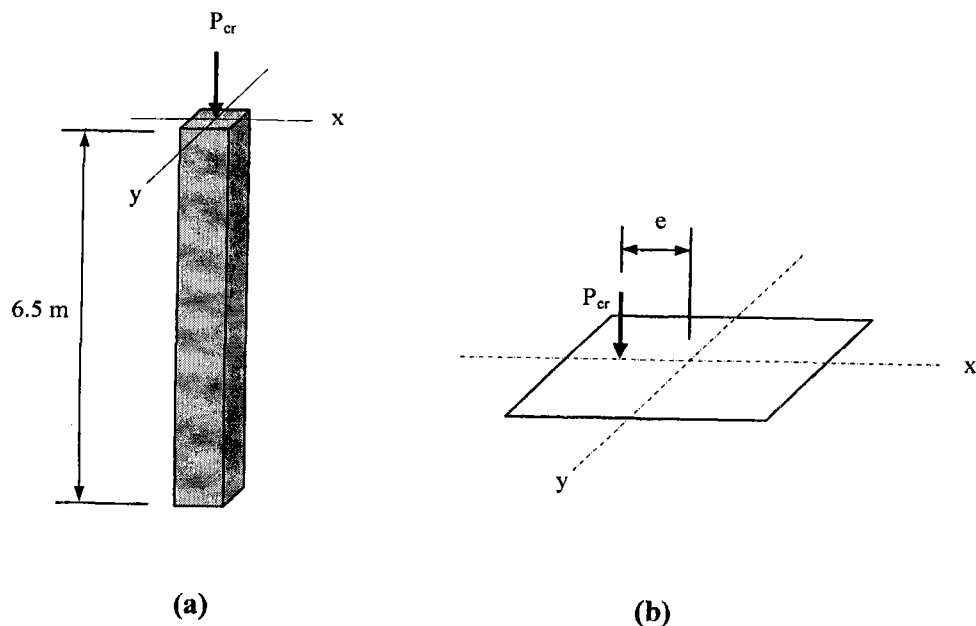

Figure 2 / Rajah 2
(b) A 6.5m long column having a square cross section of 300mm x 300mm is shown in Figure 2(a). Using the Euler's formula, determine the critical buckling load for the column for the following end conditions. Assume $E = 200\text{GPa}$.
- (c) Select any one of the end condition from question 2(b). If the steel column in Figure 2(a) must carry a load 20% higher than the critical load from the selected case, with an eccentricity, e , of 50mm as shown in Figure 2(b), check if the square section of 300mm x 300mm is safe to be used or not. Assume $E = 200\text{GPa}$, allowable stress for column subjected to concentrated load of 100MPa and allowable stress in bending is 150MPa. The following inequality equation is to be satisfied: